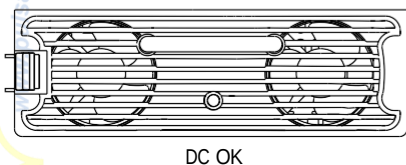

Figure 3-3: Front panel of RCP-2000
- When DC output voltage $\geq 80\pm 5\%$ of the rated value, the green LED on the front panel will light up (see Figure 3-3). In the mean time, there will be a "Low" signal (0~0.5V) between "DC-OK" and "GND-AUX" on CN500 connector.